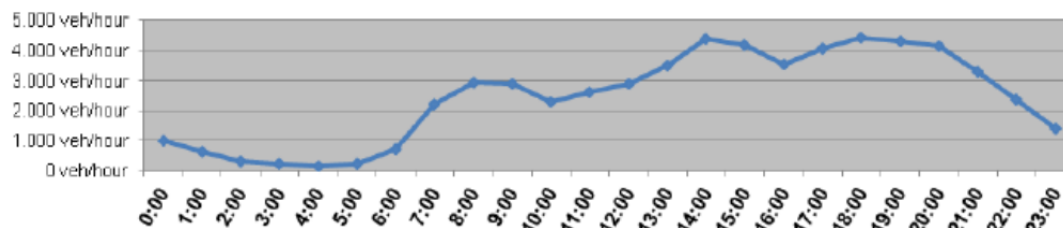
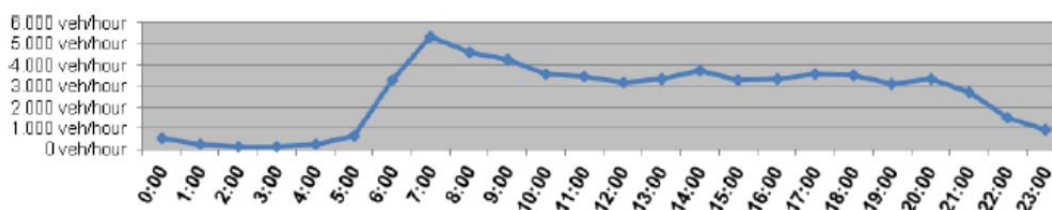

Figure 9 – Hourly traffic distribution. Main Branch – weekday- towards Badajoz
Figure 10 – Hourly traffic distribution. Main Branch – weekday- towards Madrid
- Hourly traffic distribution during the day for working days in the main branch: **(Figure 9: direction to Badajoz) – (Figure 10: direction to Madrid)**.